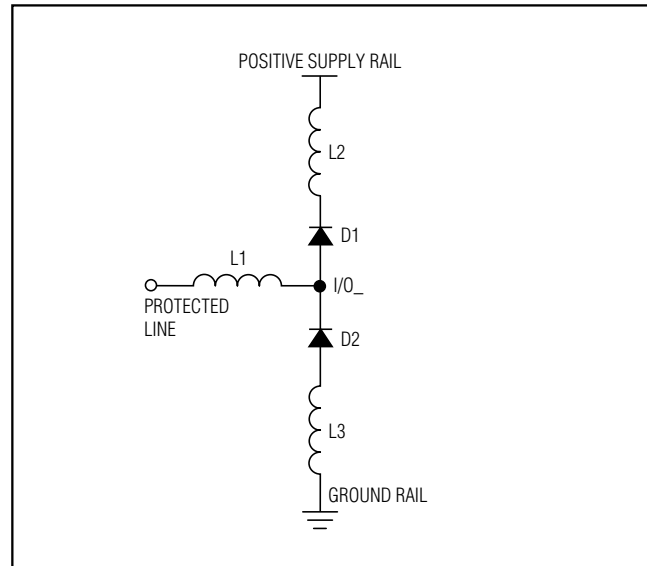

Figure 1. Parasitic Series Inductance
**Note 2:** Idealized clamp voltages (L1 = L2 = L3 = 0) (Figure 1); see the *Applications Information* section for more information.
In reality, the effect of the parasitic series inductance on the lines must also be considered (Figure 1).